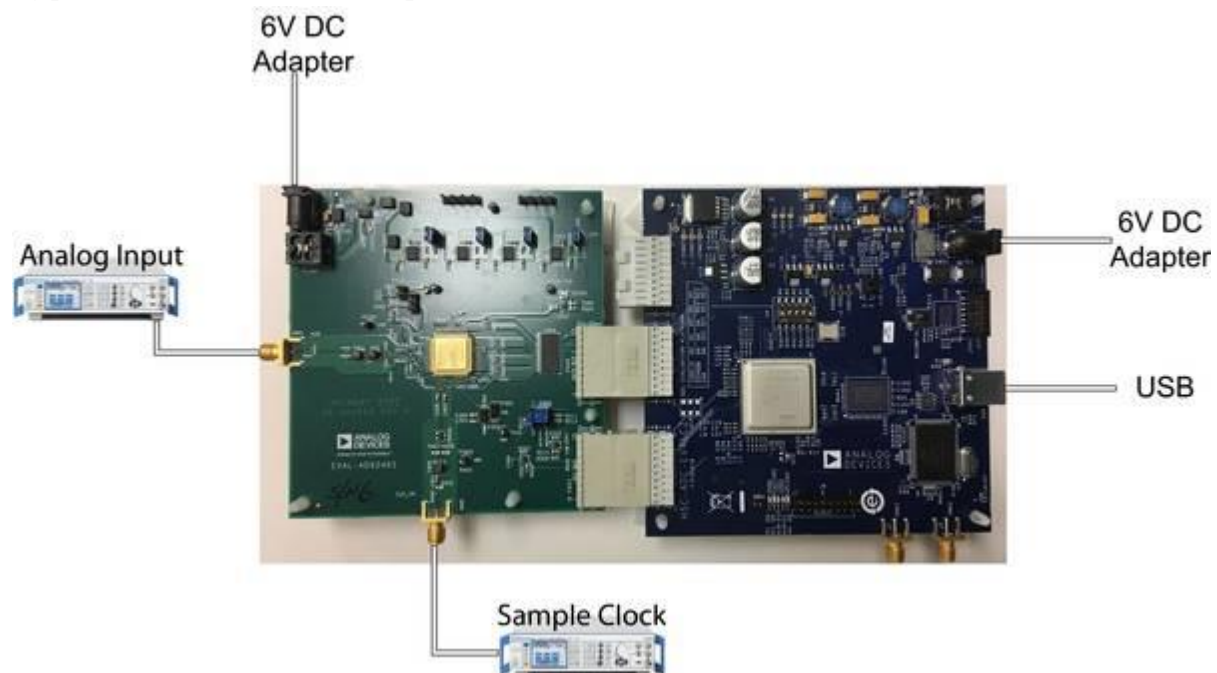

Figure 1. AD9246S Evaluation Board Connection (6V DC Wall Power)—EVAL-AD9246S
1. Connect the evaluation board to the data capture board, as shown in Figure 1.
The evaluation board provides the support circuitry required to operate the AD9246S in its various modes and configurations. Figure 1 shows the typical bench characterization setup used to evaluate AC performance. It is critical that the signal sources used for the analog input and clock have very low phase noise (<1 ps rms jitter) to realize the optimum performance of the signal chain. Proper filtering of the analog input signal to remove harmonics and lower the integrated or broadband noise at the input is necessary to achieve the specified noise performance.